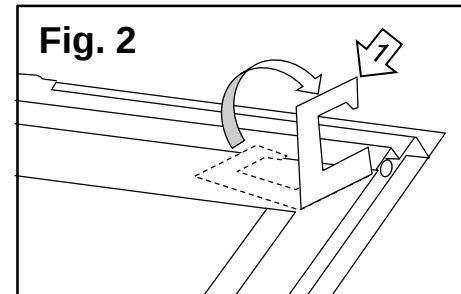

Fig. 2
4. From above the ceiling, secure the Troffer to T-Bar by bending built in **T-bar clips** (#1) on all four corners of the fixture (**Fig. 2**).
5. If local code requires, tie a wire to at least two of the four **T-bar clips** (#1) located near each corner of the Troffer to a structural member of the ceiling (**Fig. 2**).